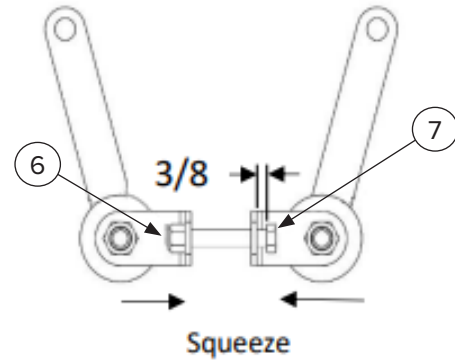

Figure 14
4. Adjust nut (Item 6) and bolt (Item 7) [Figure 14].